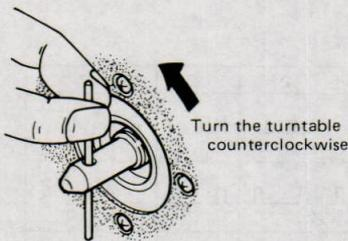

Fig. 8
- 2) To remove the turntable, re-fit the centre spindle. Steady the spindle, and turn the turntable counterclockwise. (See Fig. 8)